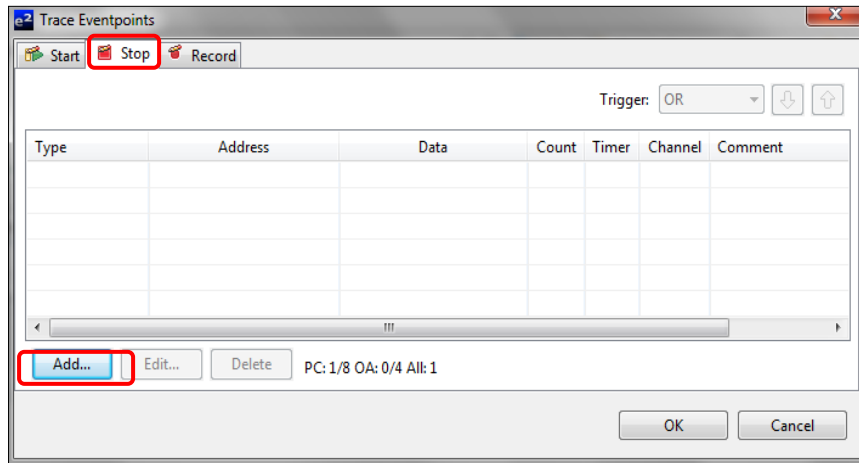

Figure 9 Configure [Trace Stop] condition
3. Set the [Trace Stop] condition as shown in Figure 9 and 10.
- a. At [Stop] tab, click [Add...] button to set trace stop for variable gFlashCount. See Figure 9.